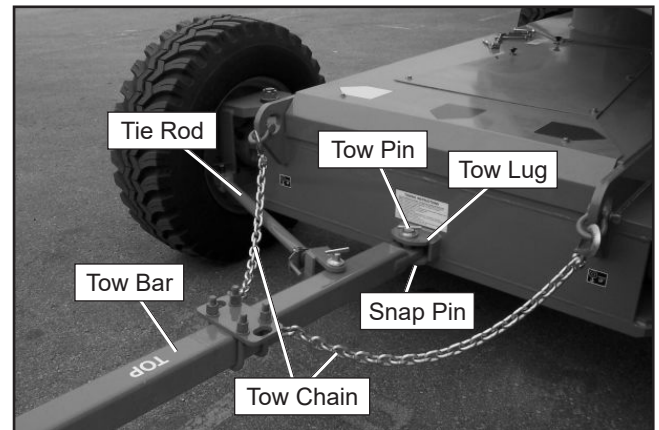

Figure 10.6 – Tow Bar Connection
3. Attach the tow bar (refer to Figure 10.6) to the tow lug with the tow pin and snap pin.
5. Attach the two tow bar chains to the tie-down lugs. Make certain that the chain goes over the tie rod as shown in Figure 10.6.